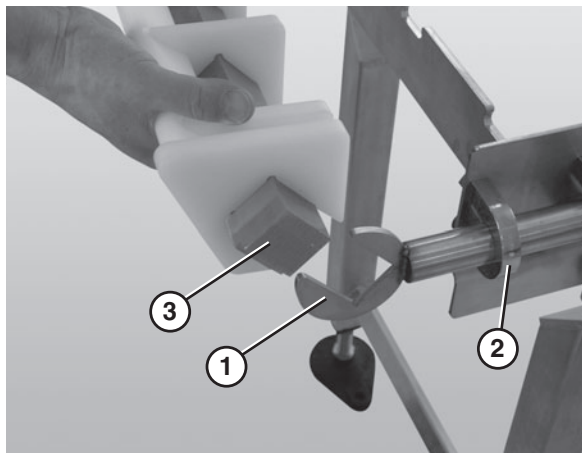

Figure 15
1. Slide the nose bar idler shaft hands (**Figure 15, item 1**) into the take up blocks (**Figure 15, item 2**).
2. Attach the nose bar transfer post (**Figure 15, item 3**) to the nose bar idler shaft hands.